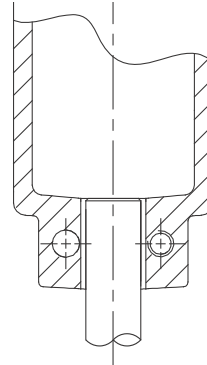

Fig. 3 Coupling
Fit the coupling (pos. 10a) on the shaft so that the top of the pump shaft is flush with the bottom of the coupling. See fig. 3.